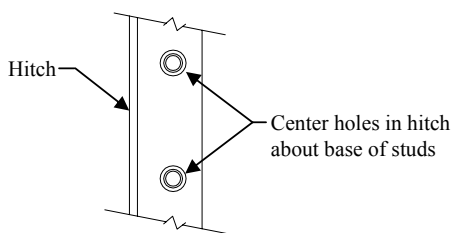
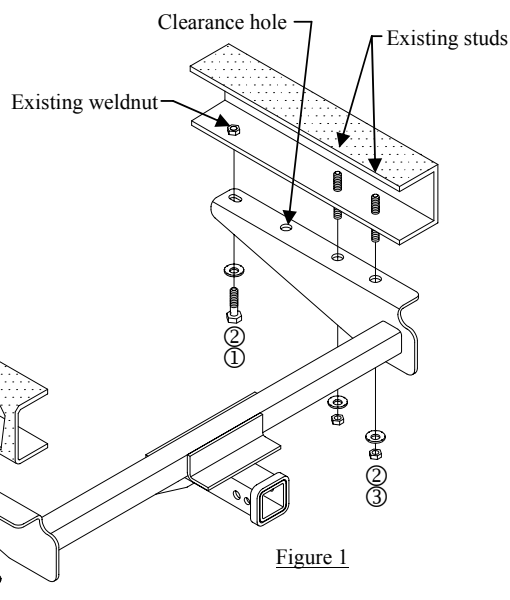

Figure 2
Figure 1
①	Qty. (2)	Hex Bolt M12 X 1.75 X 40	③	Qty. (4)	Hex Nut M12 X 1.75
②	Qty. (6)	Conical Washer 1/2
- Raise hitch into position over two existing studs at the end of the frame. Being careful to center the holes in the hitch around the base of the studs. As shown in Figure 2. Loosely install conical washers and nuts supplied, both sides, as shown in Figure 1.